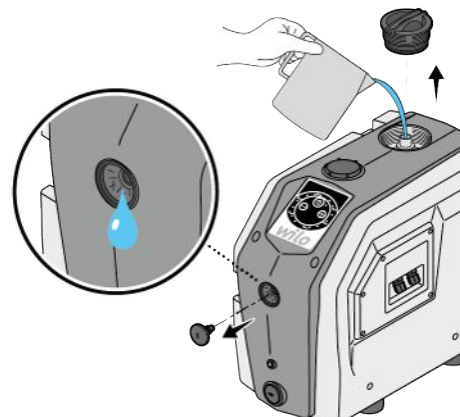

Fig. 9: Filling
- Fill the product with water (approx. 1.5 l) until the water comes out of the aeration opening (Fig. 9).